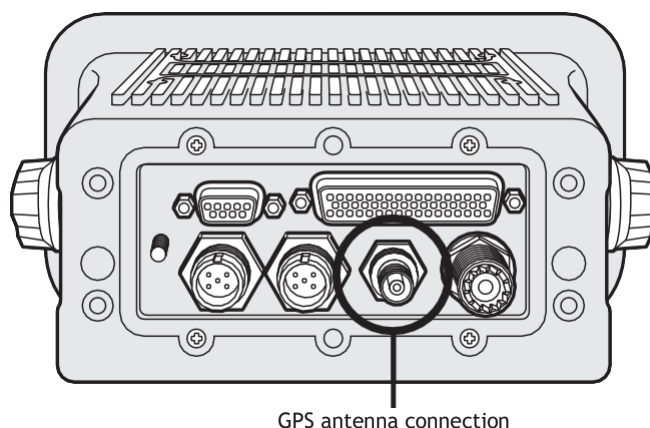

Figure 38 GPS antenna connection
- Connect the GPS antenna cable to the GPS connector on the AIS transceiver as shown in Figure 38.